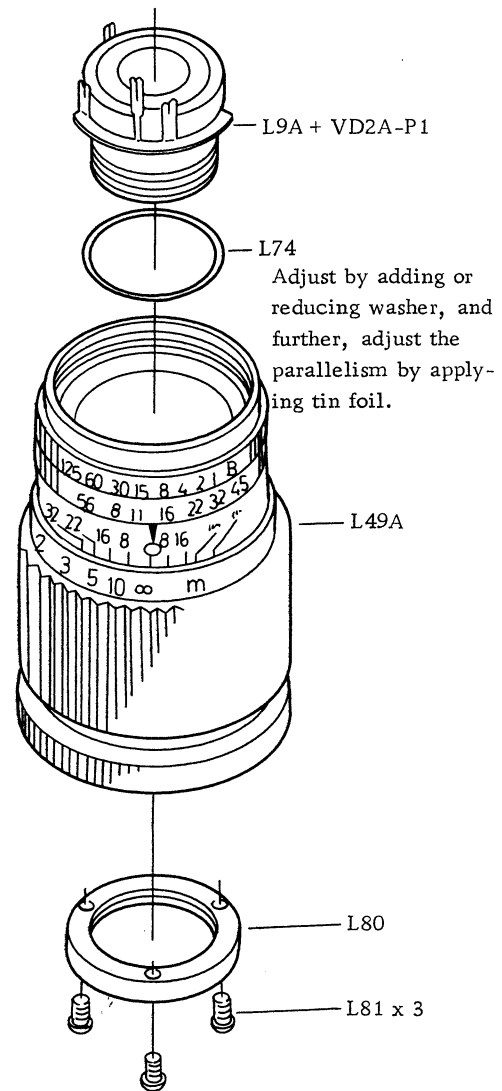

Fig. 4
A. Install the shutter installation seat (L9A) on the lens barrel with washer (L71), and tighten the ring (L80) with screws (81, 3 each). Fig. 4
B. For the focus adjustment, select proper washer from washers (L74) having various thicknesses. When the focus is unbalanced at one side, adjust the parallelism by using tin foil in lieu of the washer (L74). Fig. 4